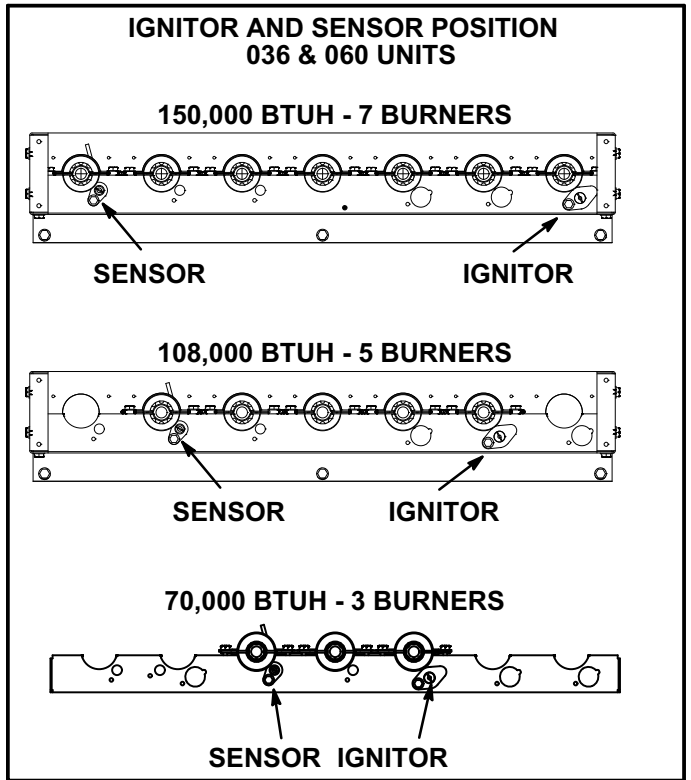
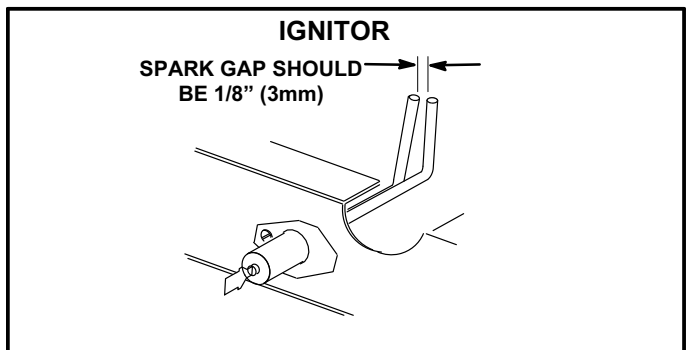
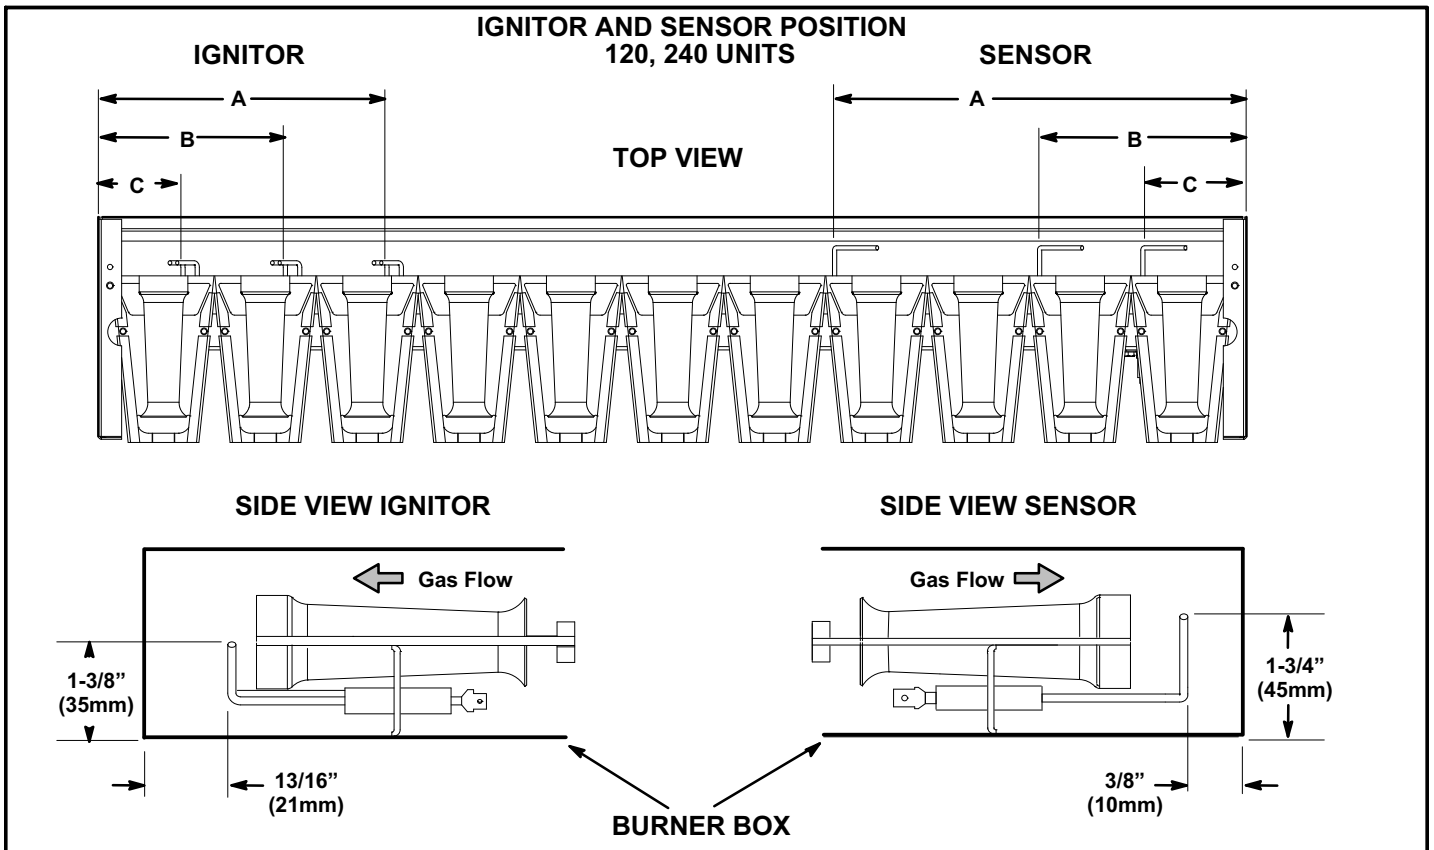

FIGURE 41
FIGURE 42
FIGURE 43
- 5- Locate the ignitor under the right burner for 036 and 060 units. See figure 41. Locate the ignitor under the left burner for 120 and 240 units. See figure 43 and table 37. Use appropriately sized twist drills or feeler gauges to check the spark gap as shown in figure 42.